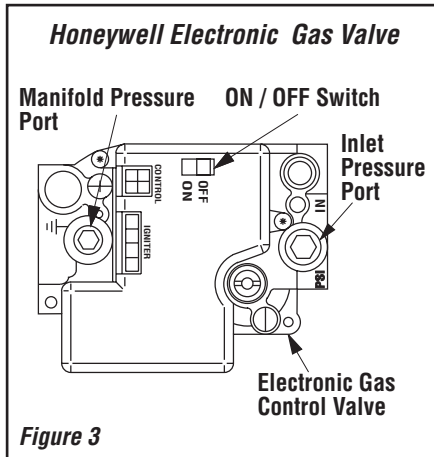
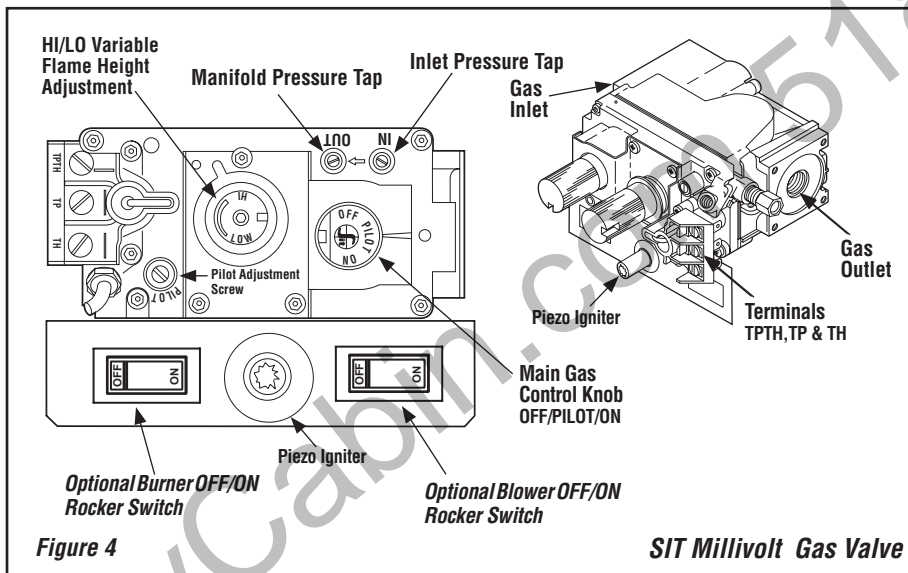

Figure 3
Figure 4
Test gauge connections are provided on the front of the millivolt gas control valve, identified IN for the inlet and OUT for the manifold side (see **Figures 4 or 5** on **Page 5**). A 1/8" NPT Test gauge connection is provided at the inlet and outlet (manifold) ports on the electronic gas control valve (see **Figure 3** on **Page 5**).
Millivolt Appliances - Appliances with Millivolt systems will be fitted with the gas control valve shown in **Figures 4 or 5**.
Electronic Appliances - Appliances with electronic systems will be fitted with the electronic valve shown in **Figure 3**.
1. All Millivolt appliances are equipped with a variable gas control valve. Flame height for these models may be adjusted through a range between fixed low and high settings while the appliance is in operation. Adjust the flame height as desired after lighting the appliance by rotating the variable adjustment control knob (HI/LO) located on the front of the valve (refer to **Figures 4 & 5**).